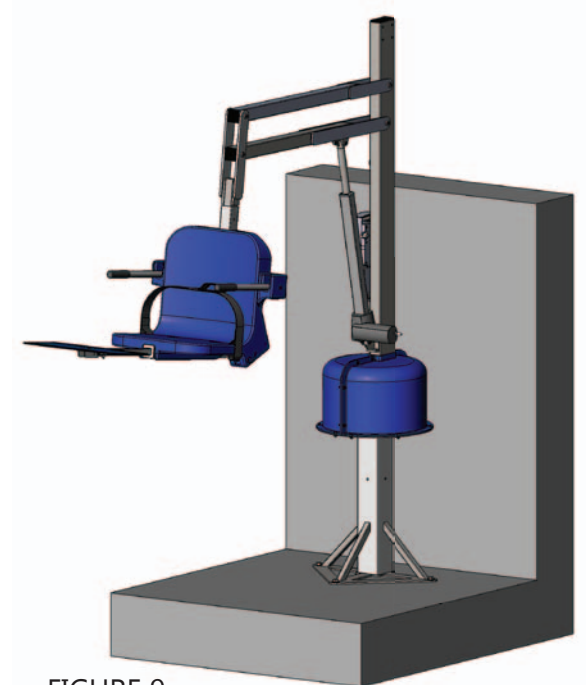

FIGURE 9
8. The Spa Lift Elite is now assembled and ready for use! Be sure the battery is fully charged. FIGURE 9 shows completed assembly mounted on a spa deck.